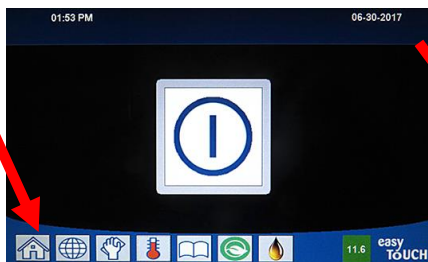

Figure 28
1. **WAIT FIVE (5) MINUTES** before proceeding to the next step.
2. Press the “**HOME**” button on the (see Figure 28).